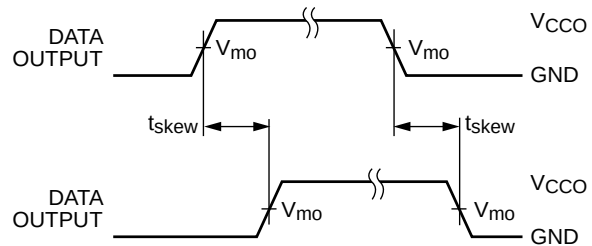

Figure 15.Output Skew Time
16. Skew is the variation of propagation delay between output signals and applies only to output signals on the same port (A_n or B_n) and switching with the same polarity (LOW-to-HIGH or HIGH-to-LOW) (see Figure 15). Skew is guaranteed; not production tested.